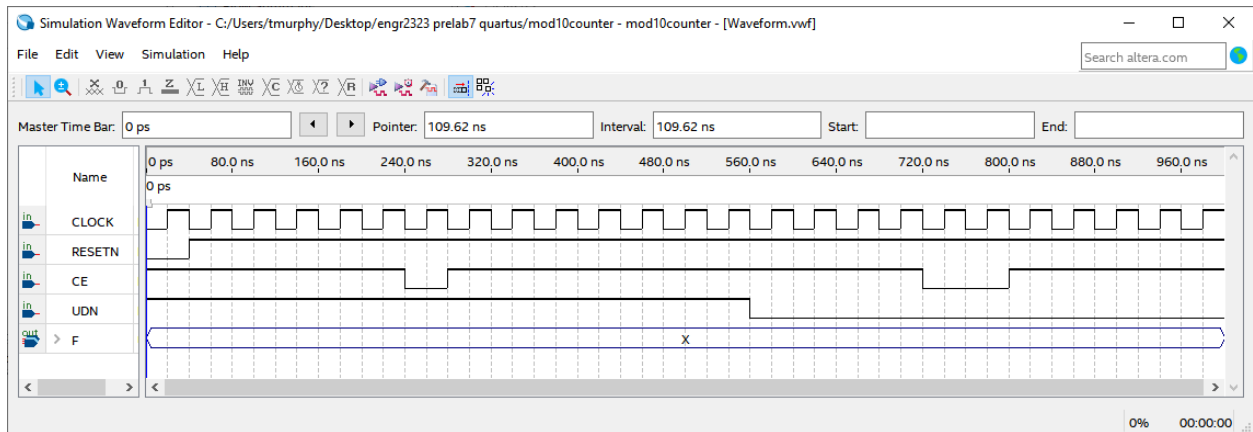

Figure 1. Functional Simulation Waveform
- Perform a functional simulation of the design. The simulation input should match that of Figure 1. For the output group F, the radix can be changed to an unsigned integer by right clicking on the signal F and from properties, change the radix to unsigned integer. This makes the simulation easier to follow.